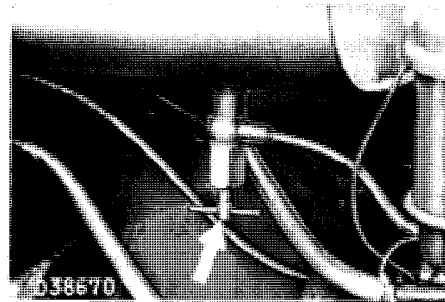

Fig. 9: Fuel shut off tap
5. The fuel stop cock (fig. 9) must be wide open. This cock should only be shut for cleaning the fuel filter or when the tractor is out of operation for several days.